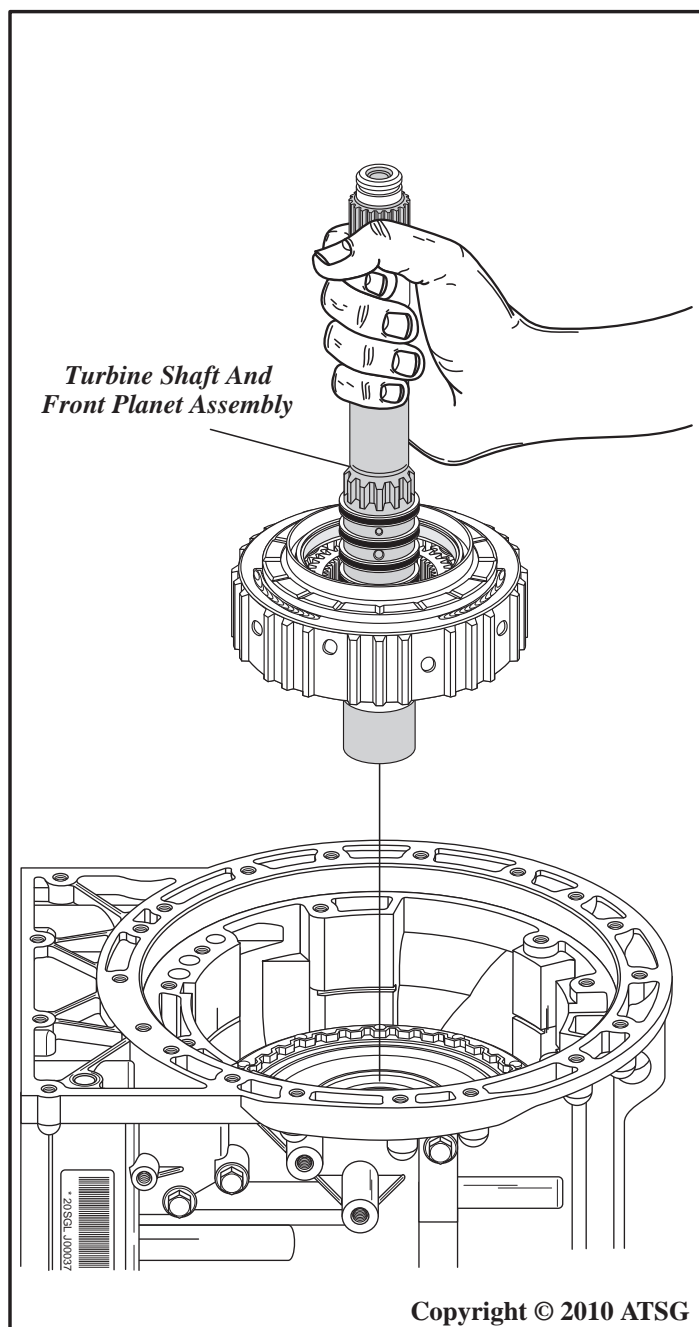

Figure 58
42. Remove turbine shaft and the complete front planetary system as an assembly, as shown in Figure 58.